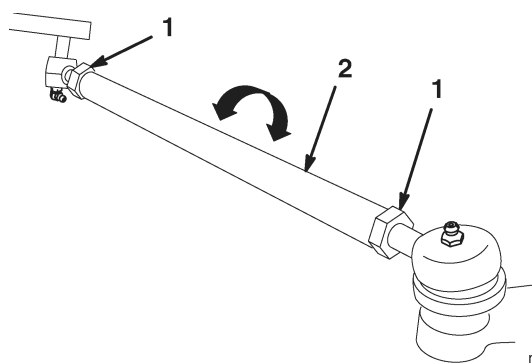

Figure 27
3. If the measurement is greater than 1/4 in. (6.4 mm), loosen the jam nuts at both ends of the tie rods (Fig. 27).